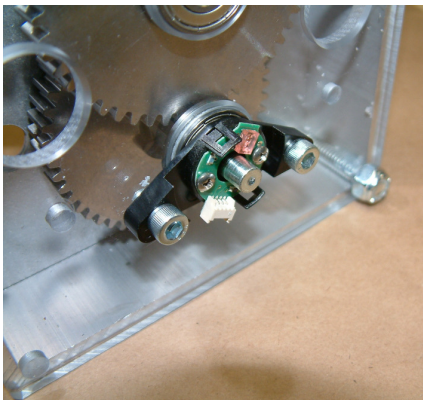

Fig. 13
Step 3: Mount the assembly created in Step 2 to the Toughbox Mount plate, with the 2 - #10-32 screws supplied in the Package (fig. 13).